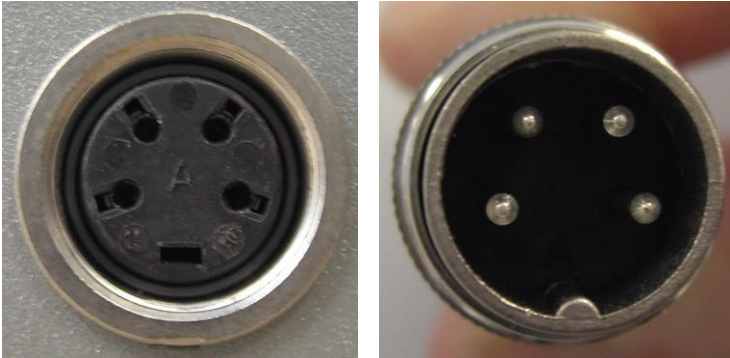

Figure 3-28. Aligning the Pins of the Footswitch's Connector with its Receptacle's Corresponding Holes
2. Align the pins of the footswitch's cable connector with the corresponding holes of the footswitch receptacle on the system's rear side, as shown in Figure 3-28.